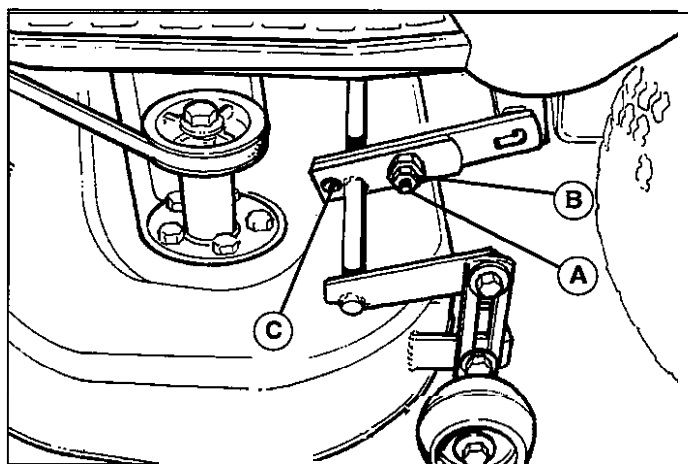

Figure 25. Side-to-Side Adjustment
5. See figure 25. Loosen the outside nut (A) and taprite screw (C), then turn the eccentric nut (B) to raise or lower the left side of the deck. When the mower deck is level, hold the eccentric nut while tightening the outside nut. Tighten the taprite screw (C).